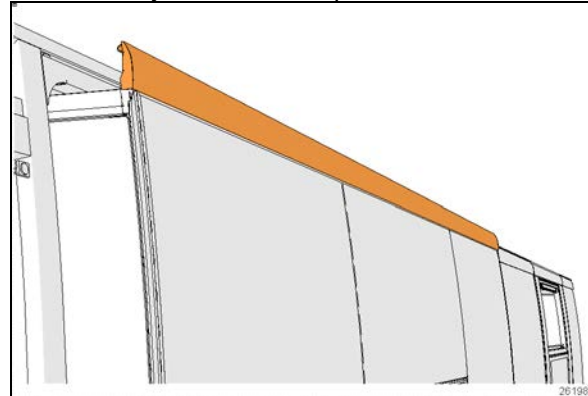
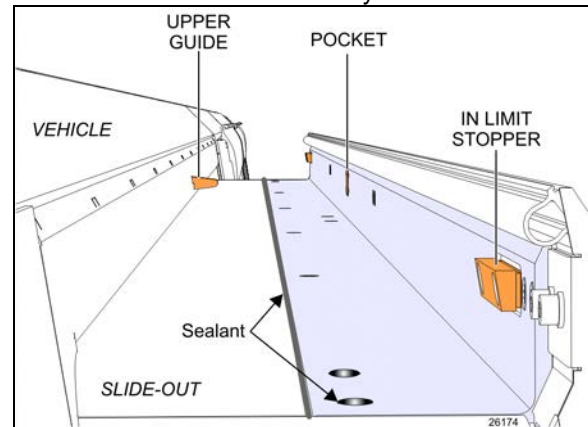

FIGURE 18 TOP EXTRUSION
FIGURE 28: EXTERIOR EXTRUSION
2. Turn the ignition to the off position. Using the manual override procedure (Paragraph 5), extend the slide-out a few inches so the exterior extrusion screws located on the top of the slide-out are accessible from outside (Figure 28).
7. Using a knife, cut the sealant between the Top extrusion and the roof. (Figure 18, Figure 28)
8. Remove the top exterior extrusion screws and the two end caps (Figure 18)
11. Once completed, use the manual override procedure to extend the slide-out and reinstall the exterior extrusion. Apply appropriate sealant on the exterior extrusion screws and between the extrusion, the roof and the edges to prevent water infiltration (Figure 28).